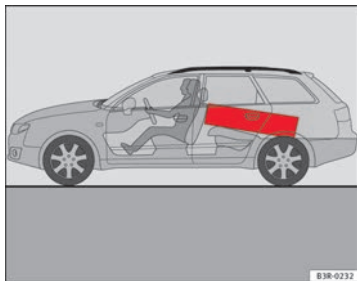

Fig. 115 Position heavy items as far forward as possible.
- Position heavy items as far forward as possible ⇒ Fig. 115.